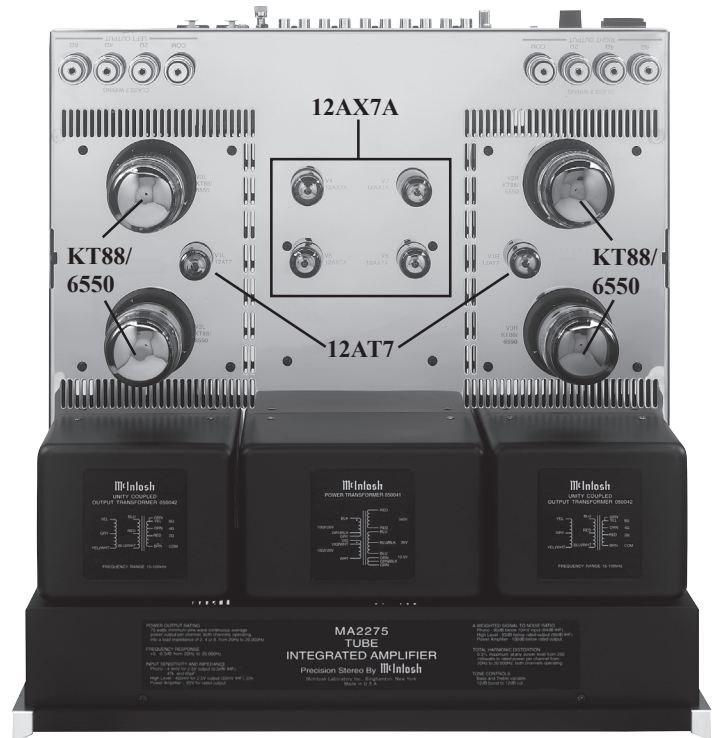

Figure 5
- Repeat the above steps for the remaining three 12AX7A Tubes. Refer to figure 5.
- Repeat steps 6-9 for the remaining 12AT7 Tube. Refer to figure 5.